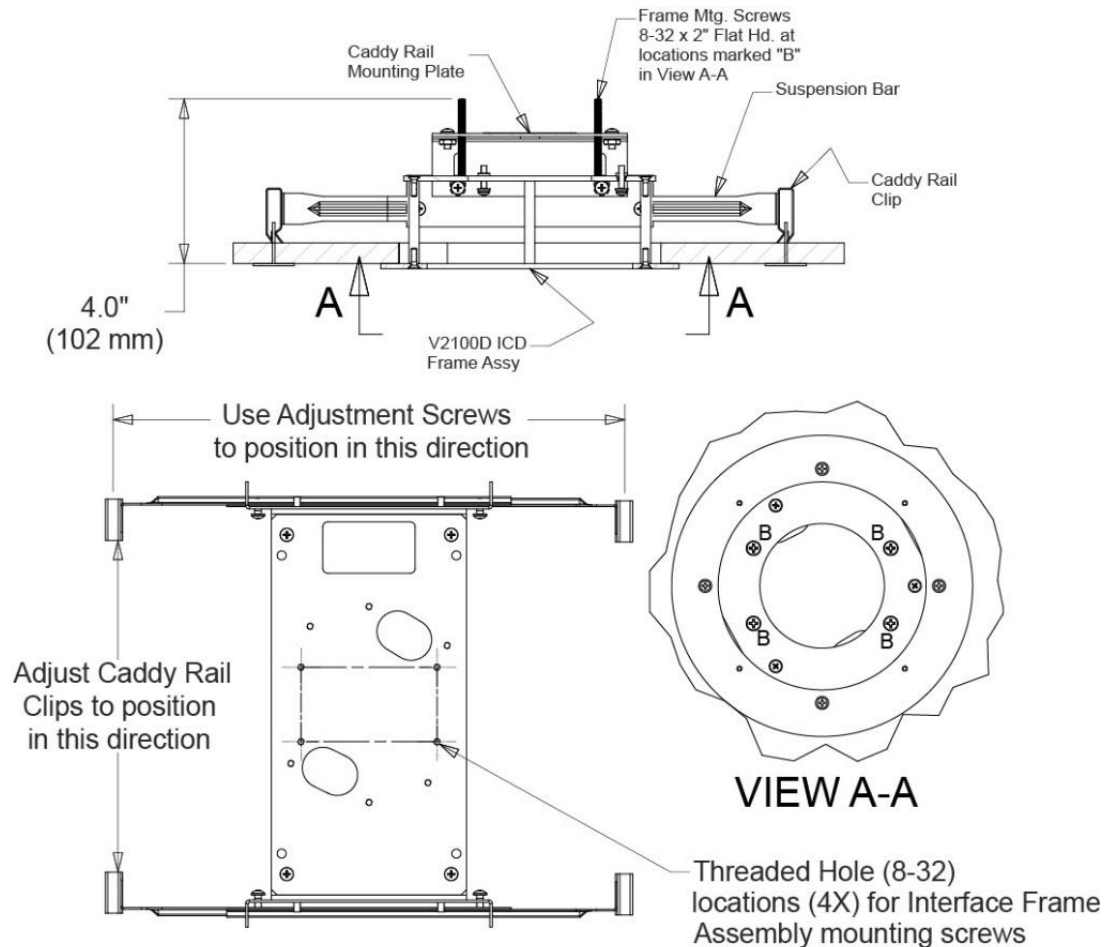

Figure 8
6. Working from the adjacent tile area, position this rail/bracket assembly squarely over the hole and fasten the caddy rail clips to the existing frame. Refer to Figure 8.
8. Secure the interface frame assembly to the caddy rail mounting plate using the four (4) 8-32x2 flat head screws provided. Align the four (4) countersunk holes in the interface frame assembly to the
four (4) holes in the caddy rail mounting plate. Tighten each screw a little at a time until snug. Do NOT OVERTIGHTEN screws. Refer to Figure 8.